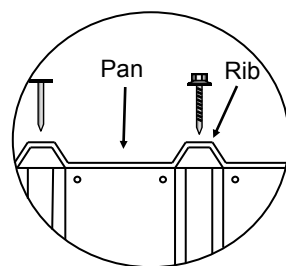

fig.1
- Ensure the Front and Back Top Plates are straight. Screw the roof sheets to the front & back Top Plates, through the ribs, using 1 x Roofing Screw per rib. (fig.1).